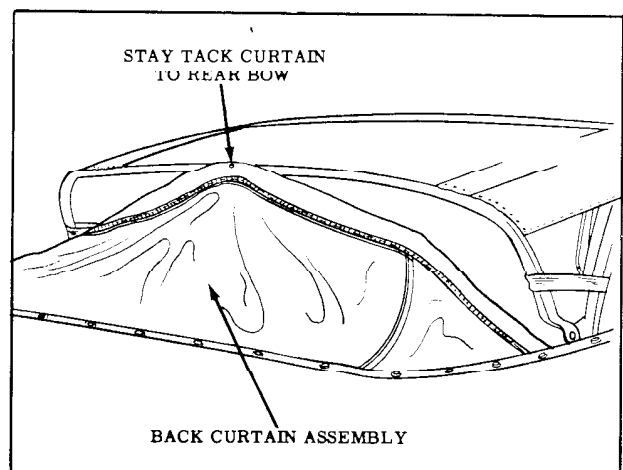

Fig. 15-96 Tacking Curtain at Rear Bow
16. Secure back curtain assembly with one tack to rear bow to prevent damage to plastic sheet. (Fig. 15-96)